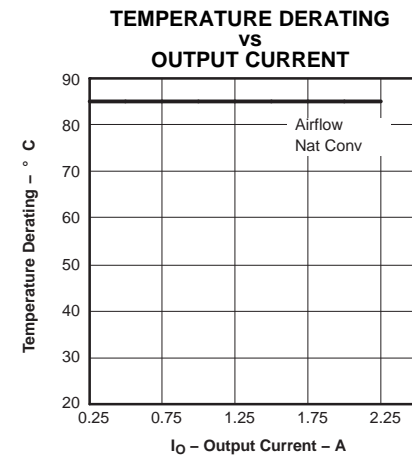

Figure 5.
- (2) The temperature derating curves represent the conditions at which internal components are at or below the manufacturer's maximum operating temperatures. Derating limits apply to modules soldered directly to a 100-mm x 100-mm, double-sided PCB with 2-oz. copper. Applies to Figure 5.
**TYPICAL CHARACTERISTICS (5-V INPUT) (3) (4) (continued)**